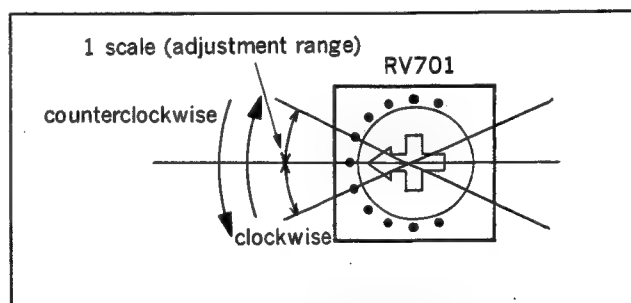

Fig. 6-9-6 Adjustment range of RV701
18. Readjustment of RV701 performs to meet the specifications for both MP and ME tapes, and the indicated position of RV701 is within the range of ± 1 scale at the mechanical center of the potentiometer. (See Fig. 6-9-6.)